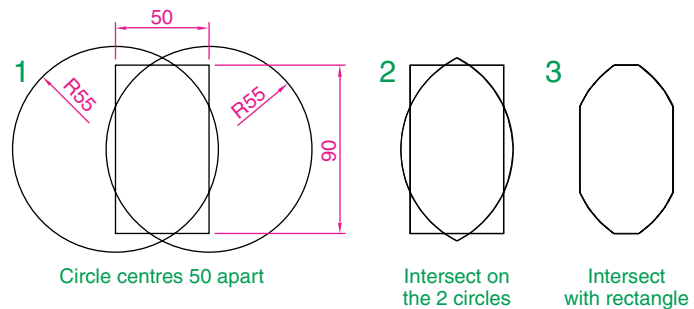

Fig. 13.12 Third example – Intersection and regions
Third example – Intersection and regions (Fig. 13.12)
1. Construct drawing 1 of Fig. 13.12.